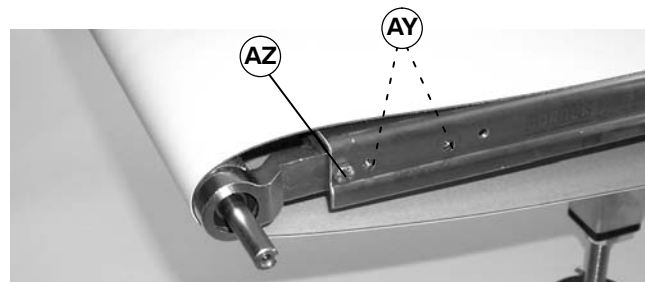
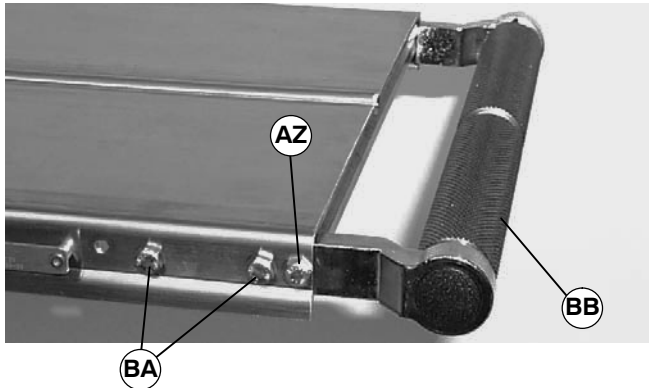
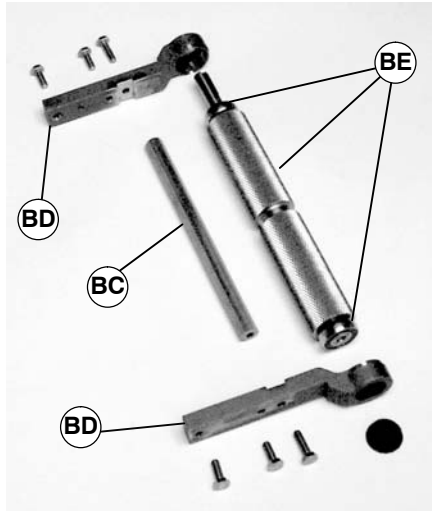

Figure 28
Figure 29
Figure 30
**NOTE:** Two screws (AY of Figure 28) were removed in step 1.
Cross support post (BC of Figure 30) will not be secure and may drop when screws (AZ of Figures 28 and 29) are removed.
2. Remove screw (AZ of Figures 28 and 29) from each side of conveyor.
**NOTE:** For a conveyor with a Heavy Load Bottom or Top Gearmotor Mounting Package, the two screws (BA of Figure 29) were removed in step 1.
Drive spindle assembly (BB of Figure 29) will not be secure and may drop when screws (AZ and BA of Figures 28 and 29) are removed.
3. Remove two screws (BA of Figure 29) from side of conveyor opposite drive shaft.
4. Remove drive spindle assembly (BB).
5. Remove cross support post (BC of Figure 30).
6. Remove two head plates (BD).
7. Remove drive pulley and bearing assembly (BE).